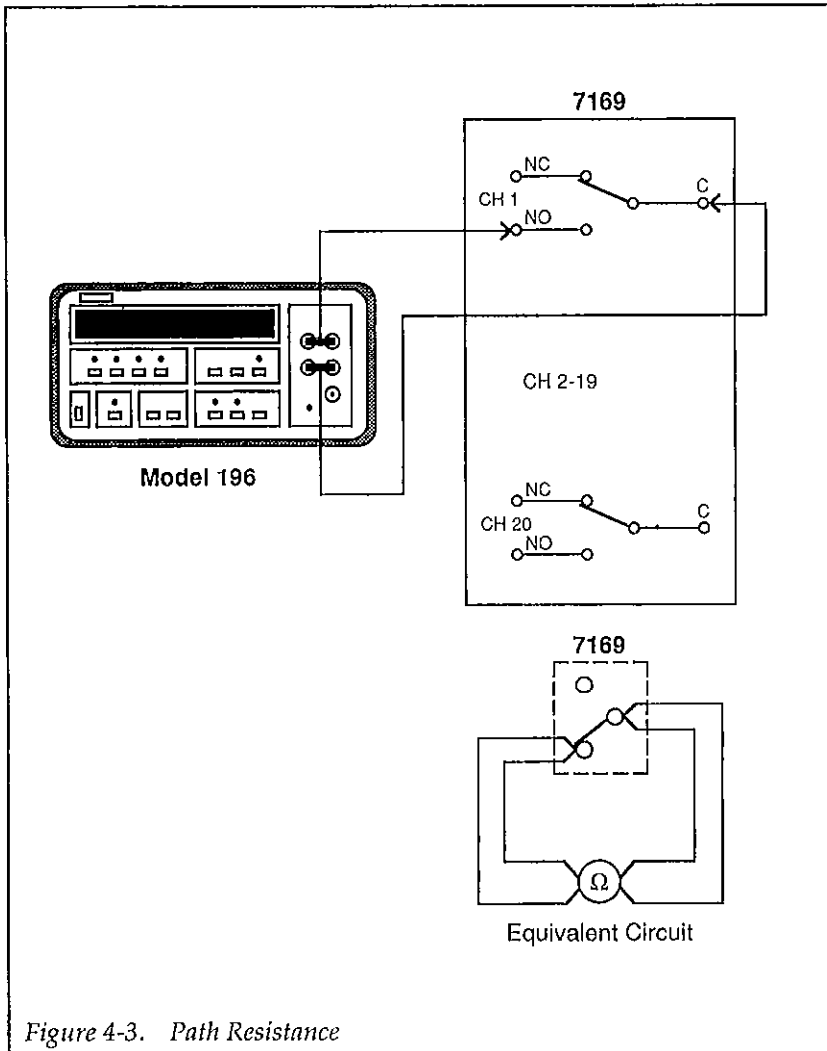

Figure 4-3. Path Resistance
Referring to Figure 4-3, perform the following steps to verify that the contacts of each relay are closing properly and the resistance is within specification.
1. Connect the Kelvin clip leads to the input of the Model 196 as shown in Figure 4-3 and select the  $300\Omega$  range.